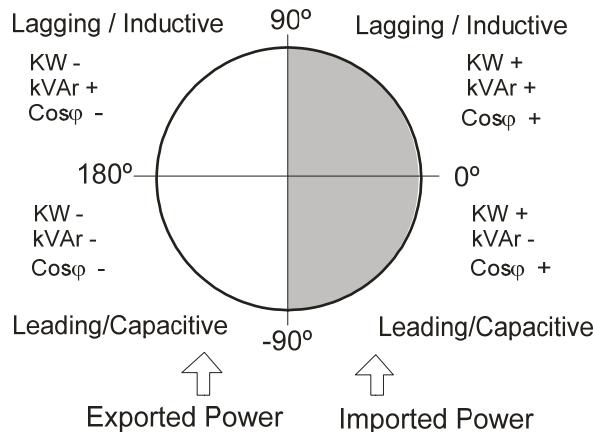

Fig. 3.1.- Signs in 4-quadrant measurements
- 4-quadrant control (see Fig.3.1), with indication about the stages connected, indication of the $\cos \phi$, type of reactive power (inductive \sim or capacitive \cap), and display of energy import or export (EXPORT icon).